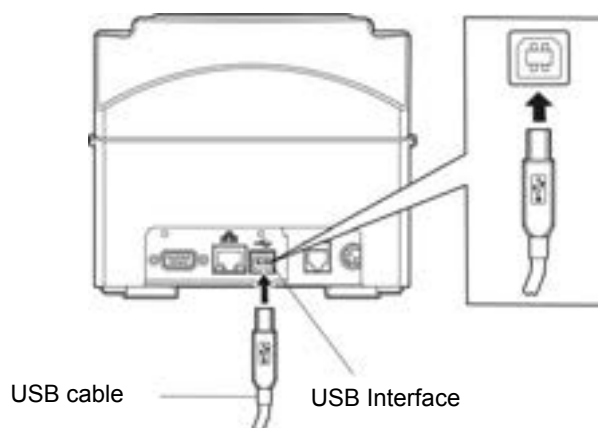

Figure 2-4 Connecting the USB cable
2. Plug the B end of USB cable (square shape) into the printer's USB interface connector. (As shown in figure 2-4)